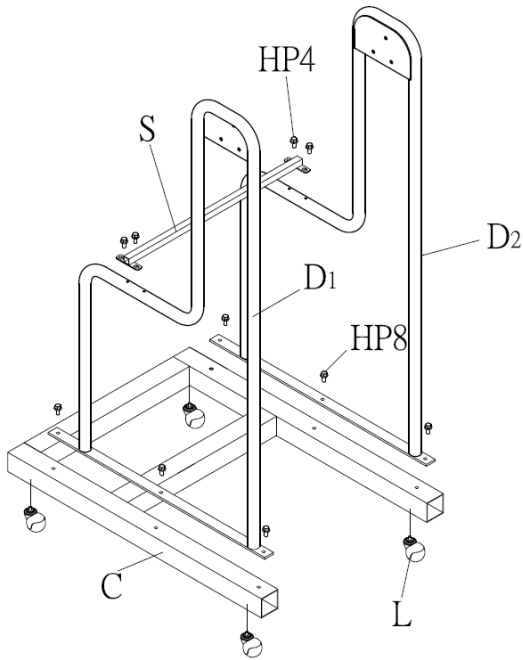

Figure 3
1. Install four casters (L) to base (C). See Figure 3.
2. Install left and right stands (D1, D2) to base (C) with flange head screws (HP8).
3. Install stand support (S) to base (C) with flange head screws (HP4).